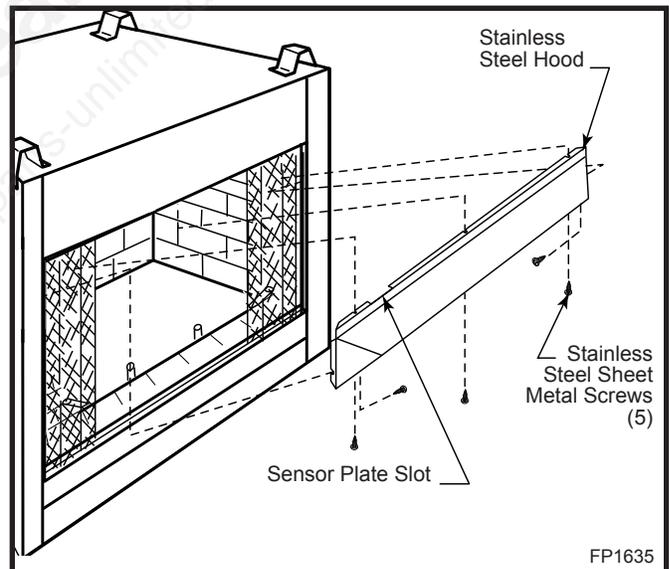

Fig. 21 Secure stainless steel hood with five (5) sheet metal screws.
2. Place the hood so the 2⁵/₈" (67 mm) slot clears the sensor plate located under the fireplace opening on the top left side. (Fig. 21)
3. Secure the hood to the unit using the three (3) slots in the hood and the pilot holes in the unit with the stainless steel sheet metal screws provided. (Fig. 21)
4. Align the sides of the hood so the pilot holes on the right and left sides of the unit are exposed through the slots on the ends of the hood. Secure using the remaining stainless steel sheet metal screws. (Fig. 21)